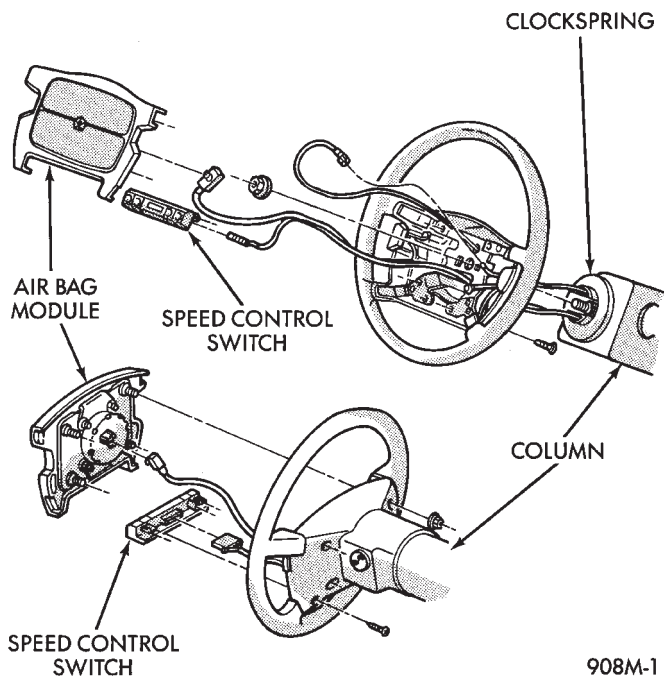

Fig. 5 Air Bag Module
- (1) Disconnect battery negative cable and isolate.
- (2) Wait two minutes for the reserve capacitor to discharge before removing undeployed module.
- (3) Remove four nuts attaching air bag module to steering wheel (Fig. 5).
- (4) Lift module, and disconnect electrical connector from rear of module.
- (5) Remove module.
- (6) When replacing a deployed module, the clockspring must also be replaced. Refer to Clockspring Removal and Installation for proper procedure.